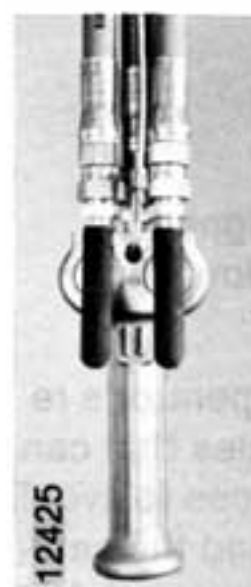

Figure 3-1.
3-1. GENERAL. Operation of **CM AIRSTAR 6** Air Hoists is controlled by a pendant throttle control. The Pendant Throttle Control has convenient lever type control valve handle (Figure 3-1) suspended from the control manifold.
- Depress throttle valve lever marked ↑ to raise load. See Figure 3-1.